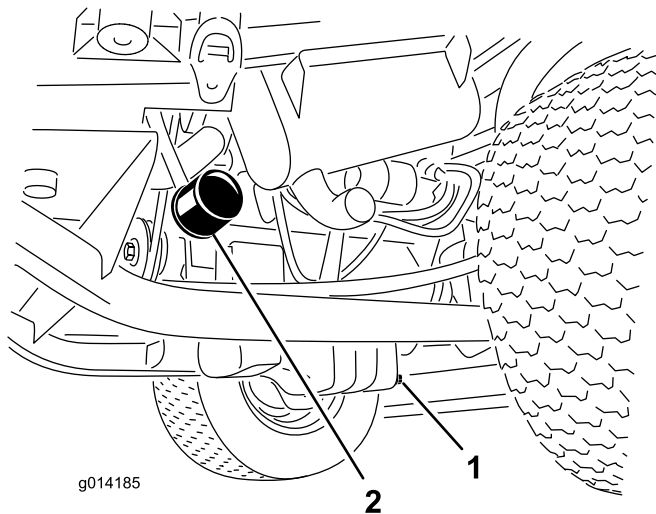

Figure 27
- Remove the drain plug (Figure 27) and let the oil flow into a drain pan.
- Remove the oil filter (Figure 27).